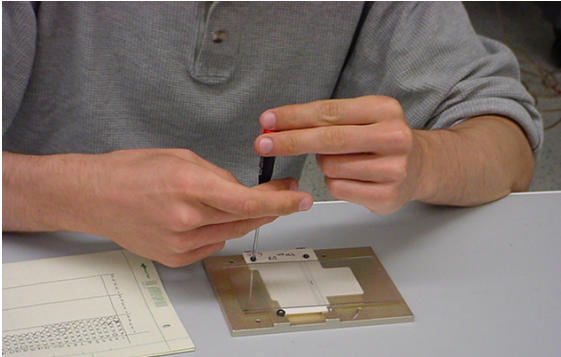
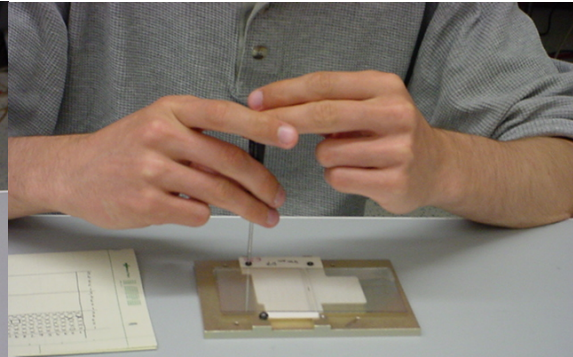

Figure 1. **Correct** hand position.
Figure 2. **Wrong** hand position.
- The screwdriver is operated with two hands. One (non-leading) hand only holds the top (rotatable) part of the screwdriver. It performs no motion during (un)screwing motion whatsoever. The absence of vertical displacement of the screwdriver prevents the module from being scratched in case of the screwdriver and screw disengagement. The position is illustrated in Figure 1.
- The second (leading) hand performs the rotating motion in *horizontal* plane only. This means that the rotating fingers should be *horizontal* as well. The **correct** hand position is shown in Figure 1. The **wrong** position is shown in Figure 2 for comparison.